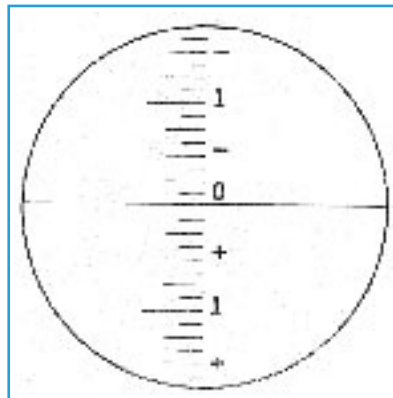

Fig. 5
3.3 Reading división board (Fig.5)